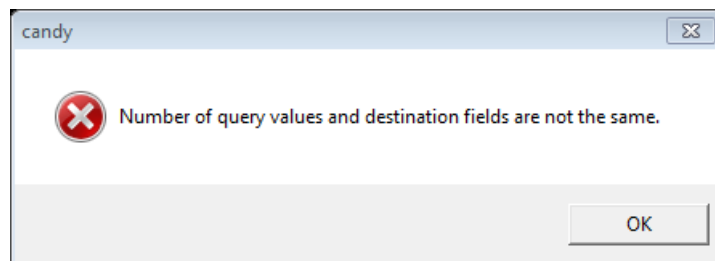

Figure 25: Error message possibly caused by wrong decimal separator
- Do you use '.' as decimal separator? (Figure 25)